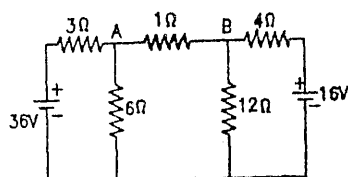

FIG. 1.192 : REFERENCE FIGURE FOR PROBLEM NO. 15
15. Using Thevenin's theorem determine the current through $1\ \Omega$ resistor in the network of Fig. 1.192. [2 A, A to B]